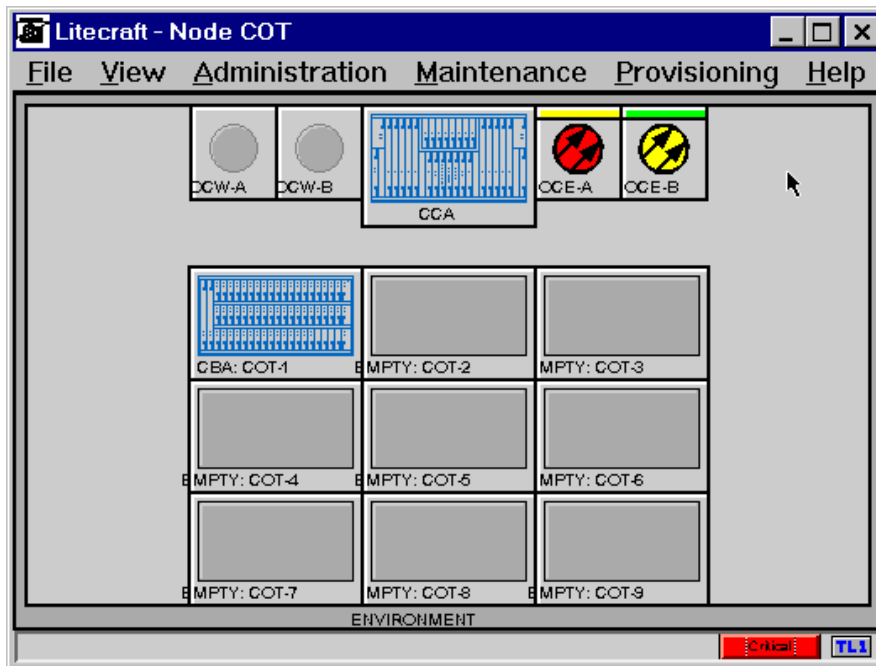

Figure 8. Node Screen
- Click on the desired network element (COT or RT). Selecting the COT causes the Node screen shown in Figure 8 to appear.
- As shown in the Node screen (Figure 8), a Litespan 2000 system can consist of as many as nine interconnected CBAs designated as CBA-COT(RT)-1 to CBA-COT(RT)-9. Select the desired node, COT or RT, by double clicking its icon.